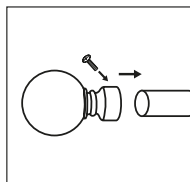

Fig. 3
- 5** Slide the rings onto the pole and then push on the finials and tighten the grub screw to hold the finial in place (see Fig 3).